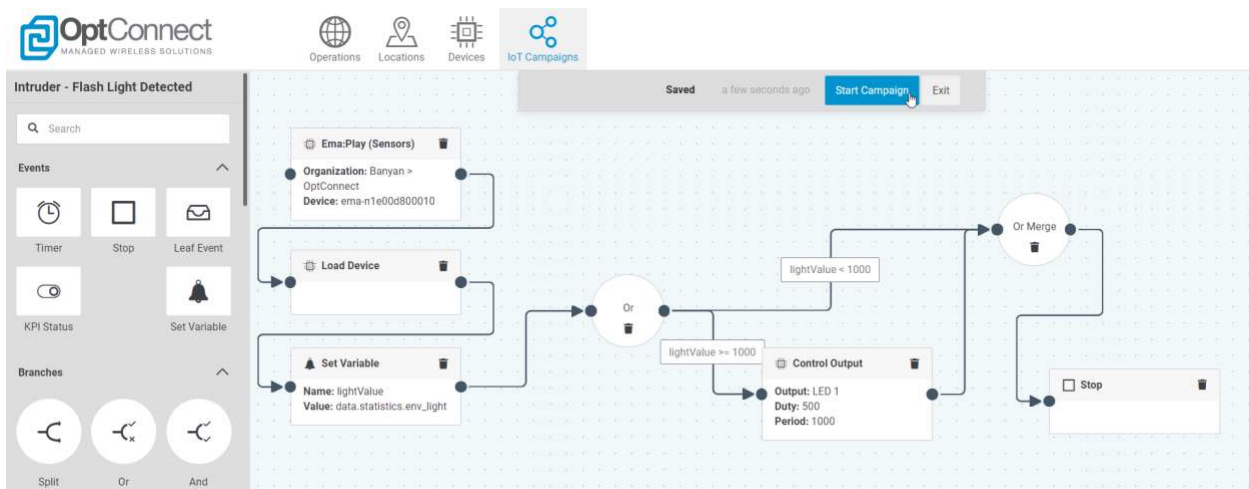

Figure 48
- Design the IoT Campaign according to *Figure 48*, making sure to click on each module and set the appropriate fields to the correct Organization, Device, etc. Click on “Start Campaign” as shown.